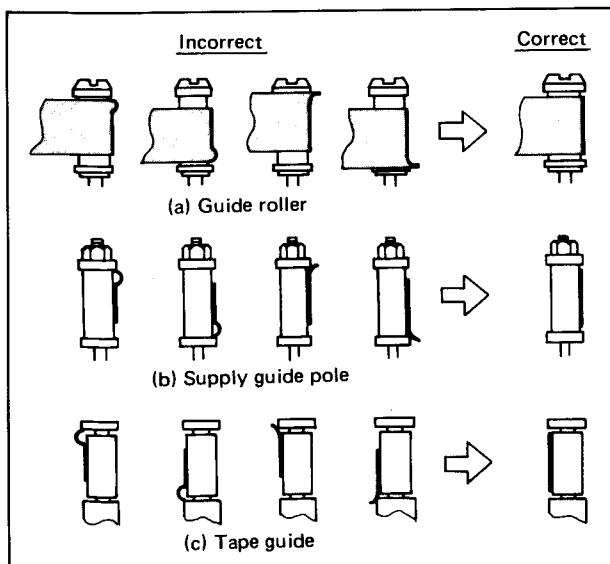

Fig. 4-38 Guide roller and Guide pole
Confirm absence of curling, wrinkling, etc. as shown in Fig. 4-38.
- During Play and search FWD modes, observe the tape at the supply guide pole, supply guide roller, take-up guide roller and tape guide. Confirm absence of curling, wrinkling, etc. as shown in Fig. 4-38.
- During Search REV mode, confirm that the tape guide does not contact the tape and absence of curling, wrinkling, etc. at the supply guide pole, supply guide roller and take-up guide roller as shown in Fig. 4-38.
2. Use a nutdriver to turn the supply guide pole to align the upper flange of the guide pole with the upper edge of the tape as shown by (b) of Fig. 4-38.